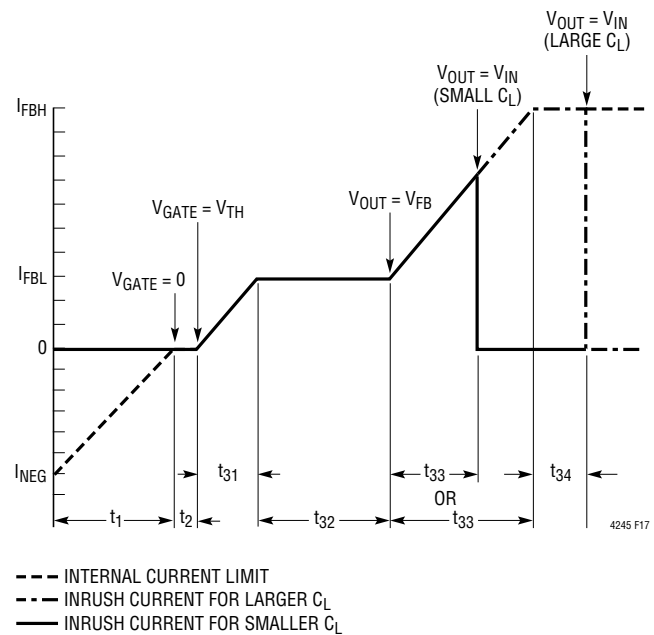

Figure 17. Inrush Current Profile for Design Example
3. To determine the TIMER capacitance, the time required to completely power-up all supply outputs simultaneously needs to be calculated. There are three parts to this time: time for the internal current limit to cross zero ( $t_1$ ), time for the gate to slew to the MOSFET threshold voltage ( $t_2$ ) and the time for the current flow to charge up the load capacitors ( $t_3$ ) (see Figure 17).
**$t_3$ :** Under simultaneous power-up each output voltage affects the inrush current profile. To simplify calculations, the inrush current profile shown in Figure 17 is chosen. All the current is assumed to charge the load capacitor, i.e., there is no load current. There are four parts to  $t_3$  as shown. Equations 8 to 11 are used to determine  $t_{31}$  to  $t_{34}$ :